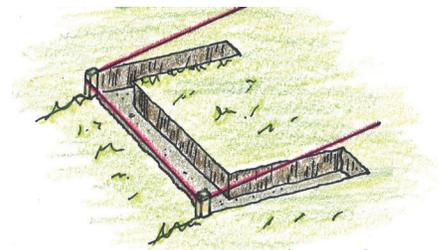

Figure 3
STEP 3. Excavate first step. Starting at the bottom, dig a trench for the first riser timber (this will be more like a shallow groove in the ground). Next, if using side timbers, dig trenches for the side timbers, which should be long enough to extend 6" past the next step's riser. Check to make sure the trenches are level (Figure 3).